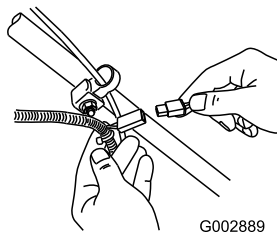

Figure 39
1. Connect the charger to the mower wire harness located below the ignition key (Figure 39).